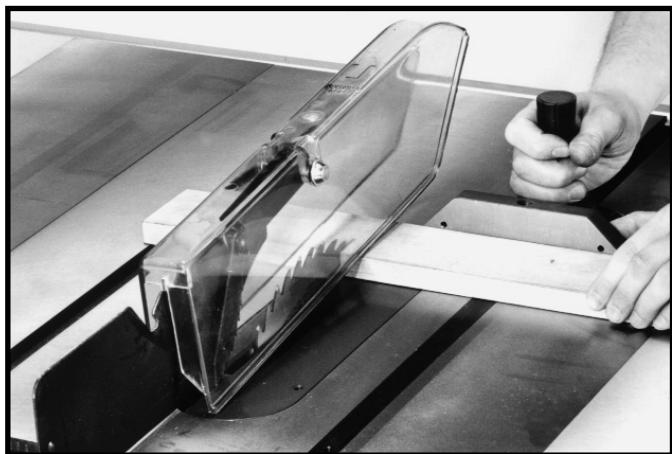

Fig. 42
Cross-cutting requires the use of the miter gage to position and guide the work. Place the work against the miter gage and advance both the gage and work toward the saw blade, as shown in Fig. 42. The miter gage may be used in either table slot. When bevel cutting (blade tilted), use the table groove that does not cause interference of your hand or miter gage with the saw blade guard.
**WARNING** ALWAYS RETURN AND FASTEN THE BLADE GUARD AND SPLITTER ASSEMBLY TO ITS PROPER OPERATING POSITION FOR NORMAL THRU-SAWING OPERATIONS AS SHOWN IN FIG. 42.